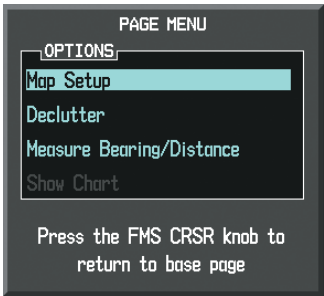

Figure 6-99 Navigation Map Page Menu
- 3) With Map Setup highlighted, press the **ENT** Key (Figure 6-99).